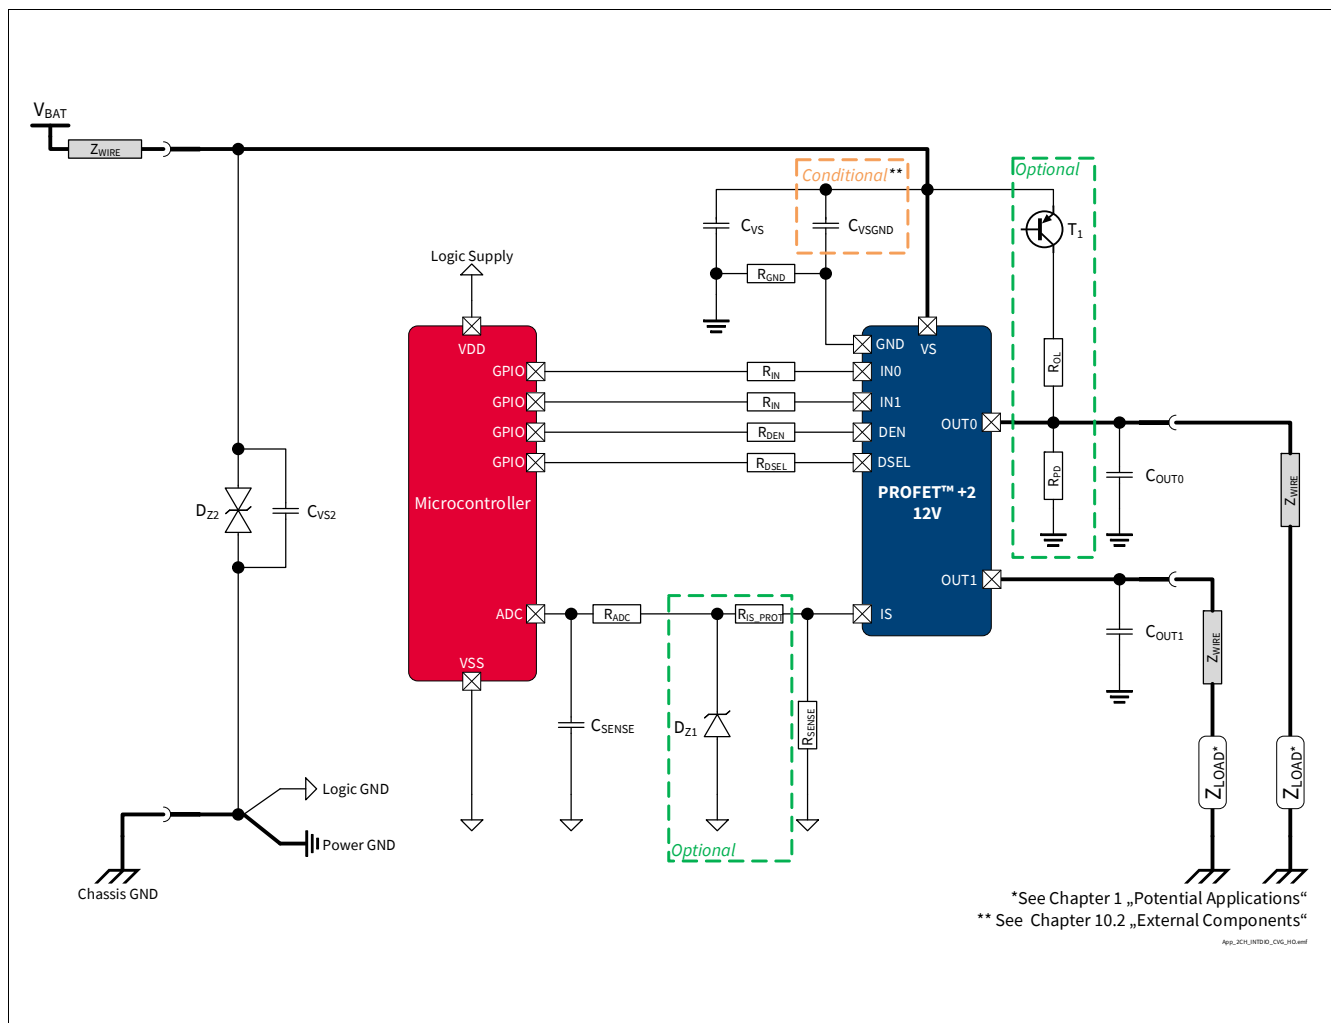

Figure 42 **BTS7120-2EPA Application Diagram**
1.03 , 2019-10-15	P_8.7.8.1, P_8.7.8.7, P_8.7.8.8 updated (added in Note or Test Condition: link to Figure 25) P_7.5.8.4, P_7.5.8.5 updated (added in Note or Test Condition: DEN = “low”; link to Figure 19) P_7.5.8.12 updated (added in Note or Test Condition: See Figure 21 ; deleted unnecessary space in Symbol: $ dV_{OUT} / dt \rightarrow dV_{OUT} / dt $) P_8.7.8.6 updated (added in Note or Test Condition: see Figure 26) P_9.7.8.1 updated (added in Note or Test Condition: see Figure 33) P_9.7.8.5 updated (Min./Max.: -45%/+45% → -27.0%/+27.0%) P_9.7.8.6 updated (Min./Max.: -36%/+36% → -25.5%/+25.5%) P_9.7.8.8 updated (Min./Max.: -30%/+30% → -24.0%/+24.0%) P_9.7.8.12 updated (Min./Max.: -14%/+14% → -12.5%/+12.5%) P_9.7.8.13 updated (Min./Max.: -11%/+11% → -8.8%/+8.8%) P_9.7.8.15 updated (Min./Max.: -6%/+6% → -6.0%/+6.0%) P_9.7.8.17 updated (Min./Max.: -5%/+5% → -5.0%/+5.0%) P_7.5.8.11 updated (added in Note or Test Condition: See Figure 19) Figure 1 , Figure 42 updated Chapter 1 updated (or LED equivalent → or equivalent electronic loads (e.g. LED modules)) P_4.3.0.7 added Table 24 updated Chapter 5.1 updated (added: see Chapter 10 for the complete application setup overview)